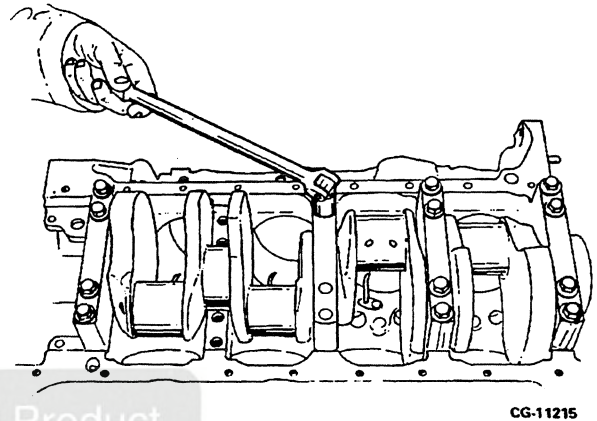

**Figure 6.28. Removing Crankshaft Gear Using ZTSE-2295-69**
3. Use ZTSE-2295-69, damper, crankshaft and cam gear remover to remove the crankshaft gear, **Figure 6.28**.
- Attach remover plate to the crank gear using two long cap screws threaded through the deep slots on the remover plate. Refer to **Figure 6.28**.
- Be sure the large shaft protector (**Figure 6.28**) is in place on the forcing screw.